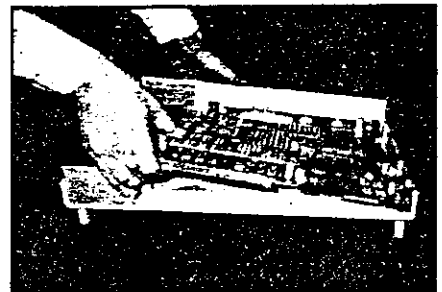
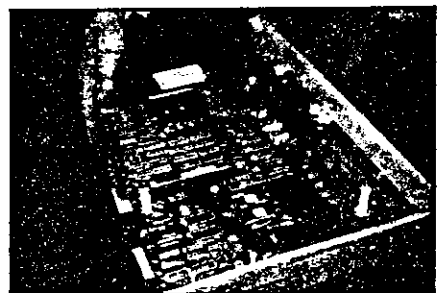

Fig. 3-2. Clearing the Right Side Connectors
Fig. 3-3. Rear Housing Insertion
**3.2.2** Gently insert the PCB into the bottom case. To clear the mouse connector cut-outs, you will have to insert the board on an angle while gently holding the right-side bottom housing out. See Fig. 3-2. The rear panel housing must be inserted along with the PCB. While holding it in place over the rear connectors, slide it into its tracks, as shown in Fig. 3-3.